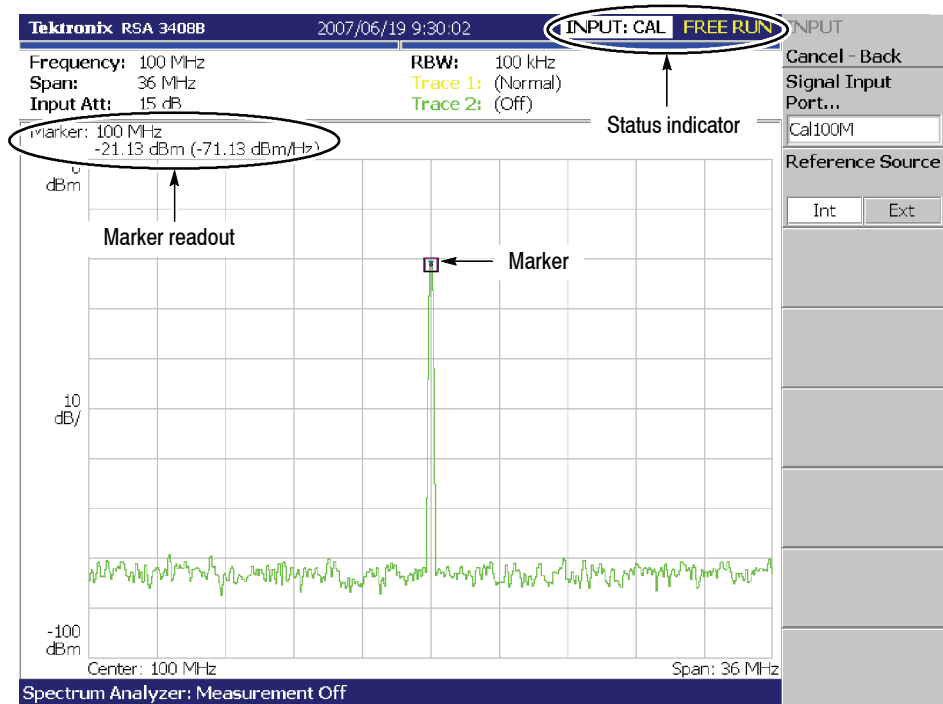

Figure 1-15: Spectrum of the calibration signal (100 MHz, about -20 dBm)
- e. Check that “INPUT: CAL” and “FREE RUN” are displayed in the status indicator at the upper right of the screen (see Figure 1-15).
- a. Press the **Peak** key on the front panel to place the marker on the peak (see Figure 1-15).